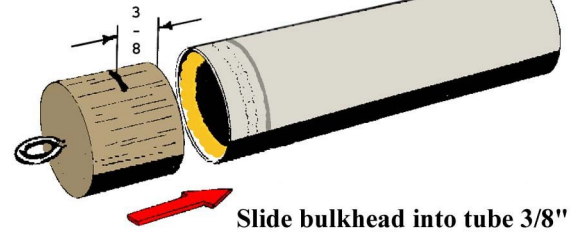

Figure 11
- **Step 19** Apply a strip of self-adhesive label material, 3/8" wide, around the **inside-bottom** end of the clear payload tube. Trim the label so that it does not overlap itself. As shown in Figure 11, draw a line completely around the balsa bulkhead 3/8" from the **opposite** end as the screw eye. Apply a bead of glue 1/8" from the tube edge on the inner surface of the label. Insert the balsa bulkhead into the glue area, short-end first, until the line around the bulkhead is even with the edge of the tube. Allow to dry. Do not attach the payload section into the model